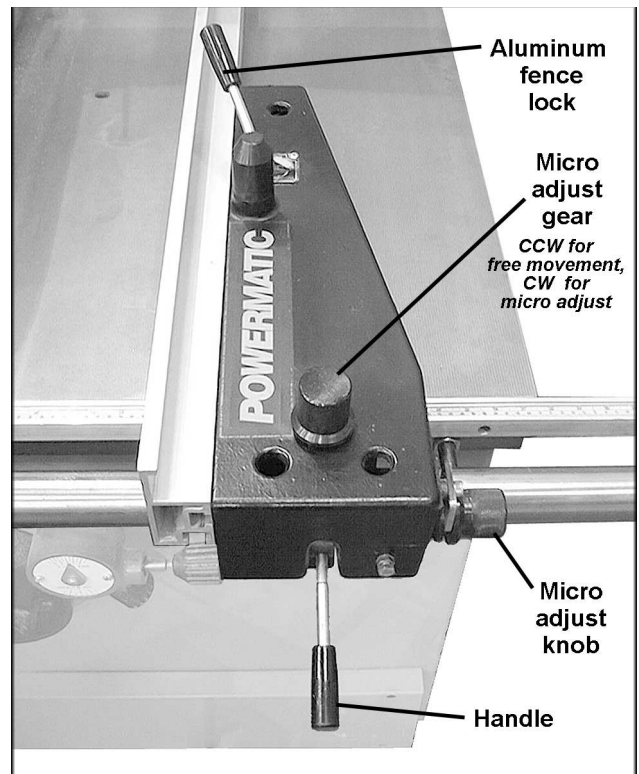

FIGURE 30
1. To move the rip fence, shown in Figure 30, turn the micro adjust gear counterclockwise, and lift the handle. The fence should slide freely on the guide bar.